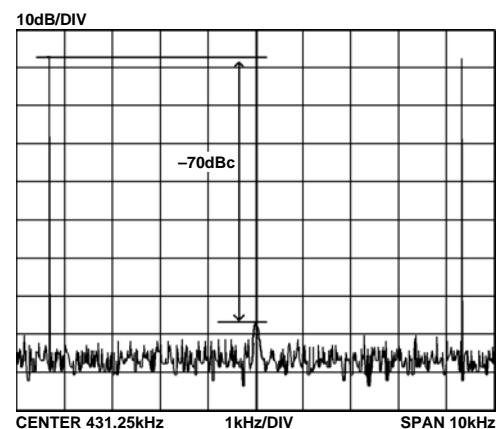

Figure 25. MTPR Measurement
Multitone power ratio is a commonly used figure of merit that xDSL designers use to help describe system performance. MTPR is the measured delta between the peak of a filled frequency bin and the harmonic products that appear in an intentionally empty frequency bin. Figure 25 illustrates this principle. The plots in Figure 10 and Figure 13 show MTPR performance in various power modes. All data were taken with a circuit with a  $k$  factor of 0.1, a 1:1 turns ratio transformer, and a waveform with a 5.4 peak-to-average ratio, also known as the crest factor (CF).